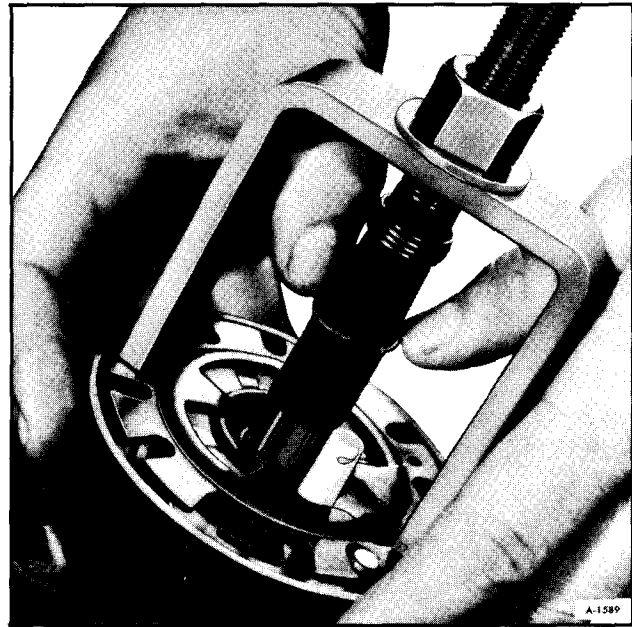

Figure 95—Installing Retaining Spring
25. Depress lock plate and install new retaining ring using Tool J-23653 (figure 95).